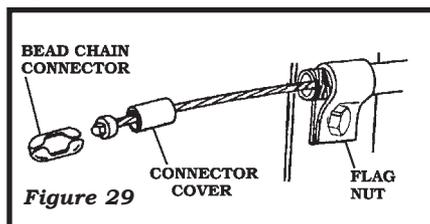

Figure 29
3. The **FLAG NUT** may be used to anchor the **CRUISE CABLE** to the existing throttle cable bracket. *Figure 29* In some cases there is an existing hole, in other cases you can drill a **5mm (.20")** hole in the bracket.